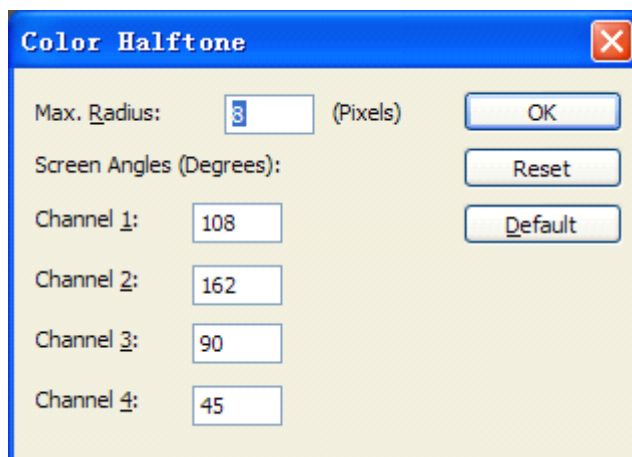

figure 5-6
1、 Select Filter/ Pixelate / Color Halftone , a window will pop up, such as figure 5-6.